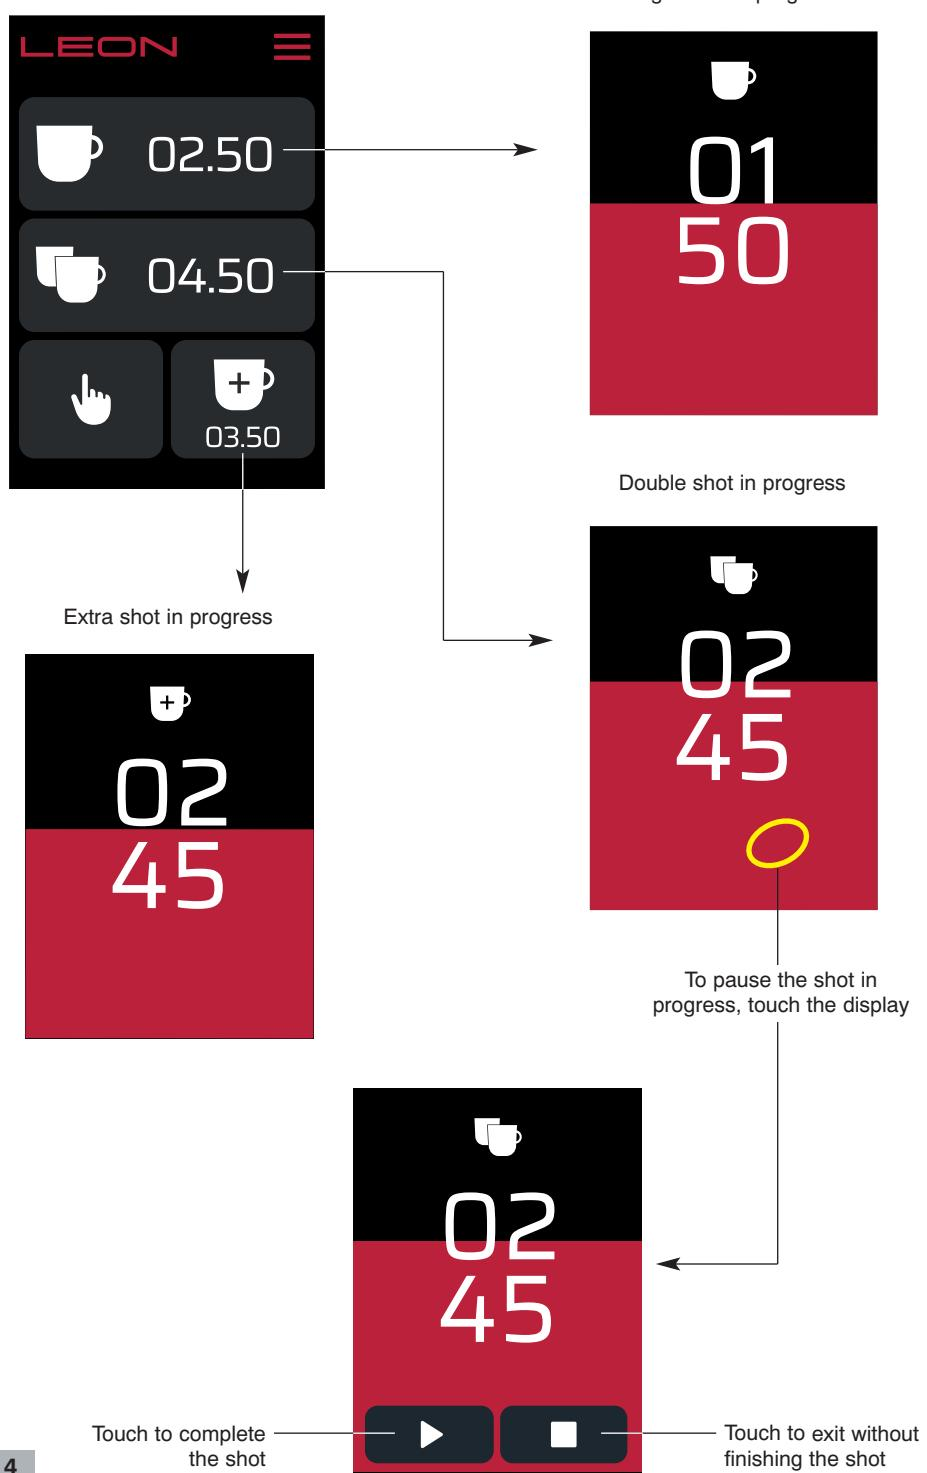

Fig. 4
- 2** Turn the ON-OFF switch to position “I” (8 Fig. 1). The control panel display (9 Fig. 1) lights up (see Fig. 4).
#### Automatic operation (see Fig. 4)